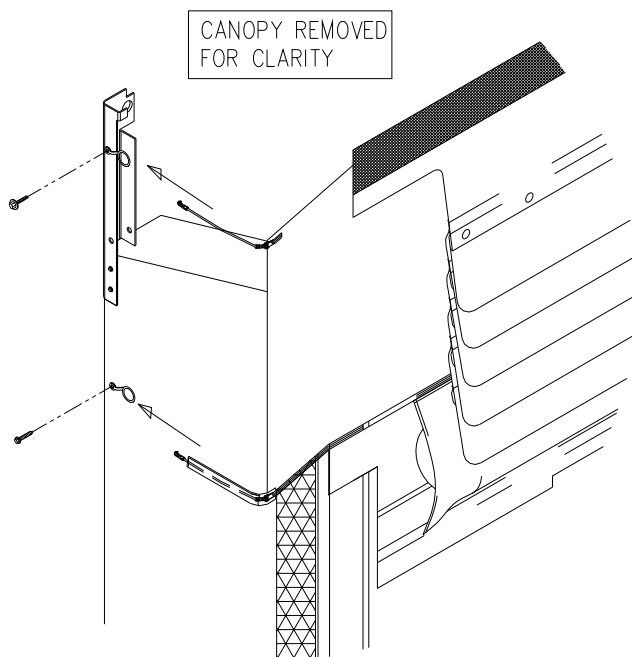

FIGURE 20
5. Flip the canopy endcaps on top of the canopy itself. Attach the ring and hanger clips. The upper hanger attaches to the canopy mounting bracket itself about 1" below the canopy wood mounting backer located towards the top. The lower hanger attaches to the side member backer straight back from the strap location on the roller seal. (See Figure 20) Pull both cords from the sides of the roller seal assembly and attach to the to the ring/hangers assemblies. Do this for both sides of the unit.